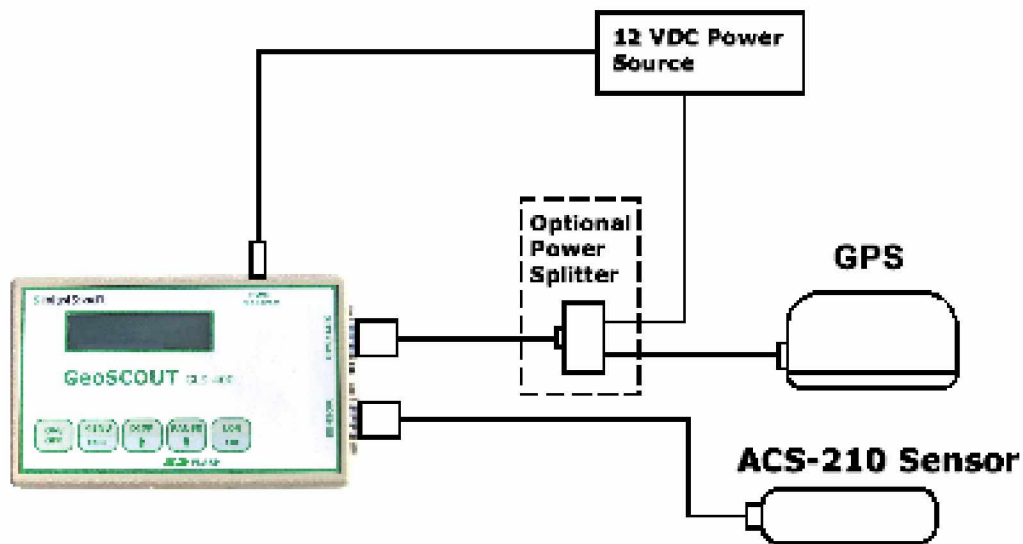

Figure 2. GeoSCOUT GLS-400 system set up and configuration.
The connections necessary to make sensor and GPS readings are shown in Figure 2. When using a GPS not supplied by Holland Scientific, please be sure to enable the GPRMC and GPGGA data strings (you may need to consult your GPS sensor's user guide in order to configure the output strings). The GeoSCOUT supports GPS baud rates up to and including 38400 baud. There is no need to manually select the baud rate; the GeoSCOUT will automatically detect the GPS baud rate.
Step 1) Connect sensor, power and GPS to the GeoSCOUT as shown in Figure 2